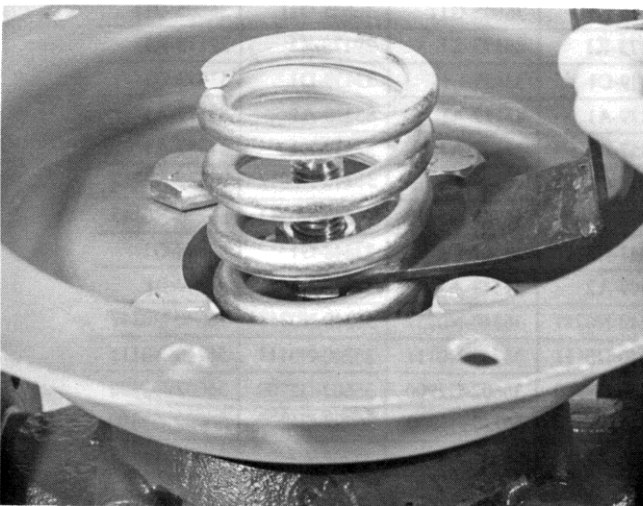

Figure 9
While holding bottom jam nut (25) in position with tool provided in repair kit (figure 9), screw stem head (7) onto stem. Jam nuts should not turn on stem.